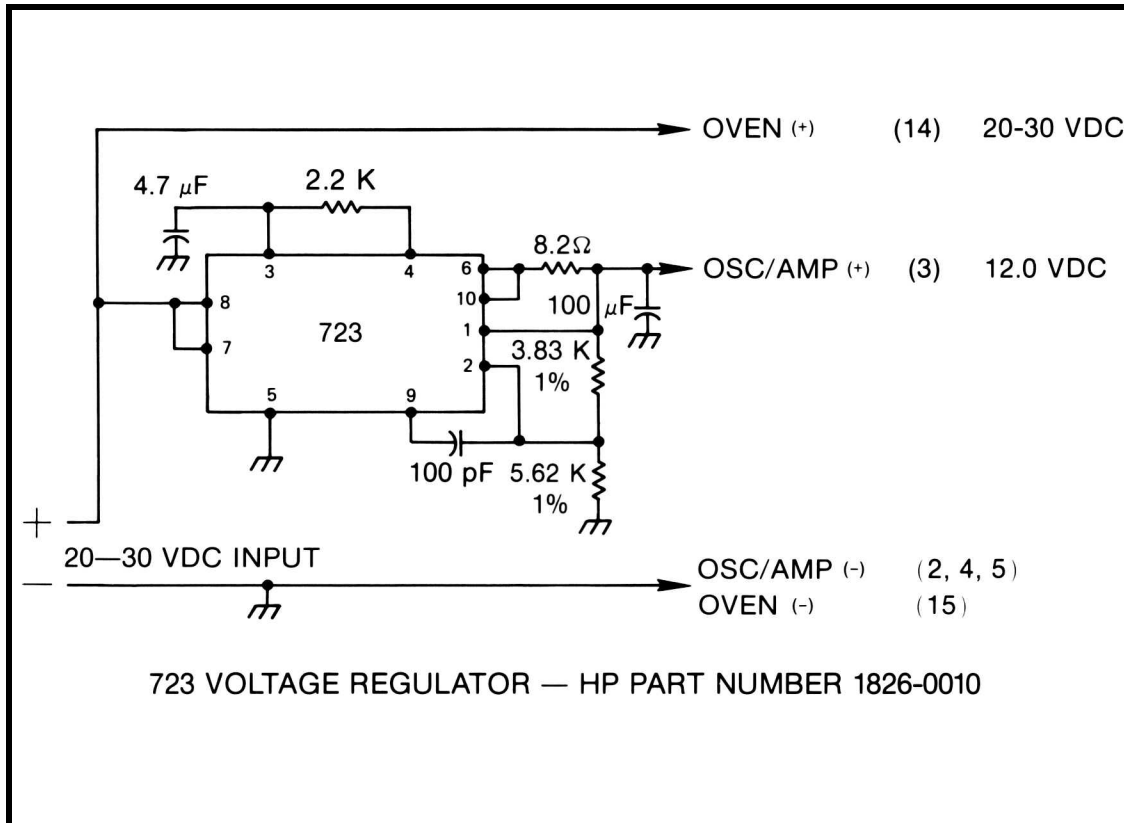

Figure 2-1. Single Source Regulated Power Supply
- 2-11. A single source of +20 to +30V dc with 10% regulation may be used to power both the oven and oscillator amplifier circuits if a simple IC regulator is used. A suggested circuit is shown in Figure 2-1. The resistor and capacitor connected to terminals 3 and 4 of the IC minimize ripple and noise in the regulated output.